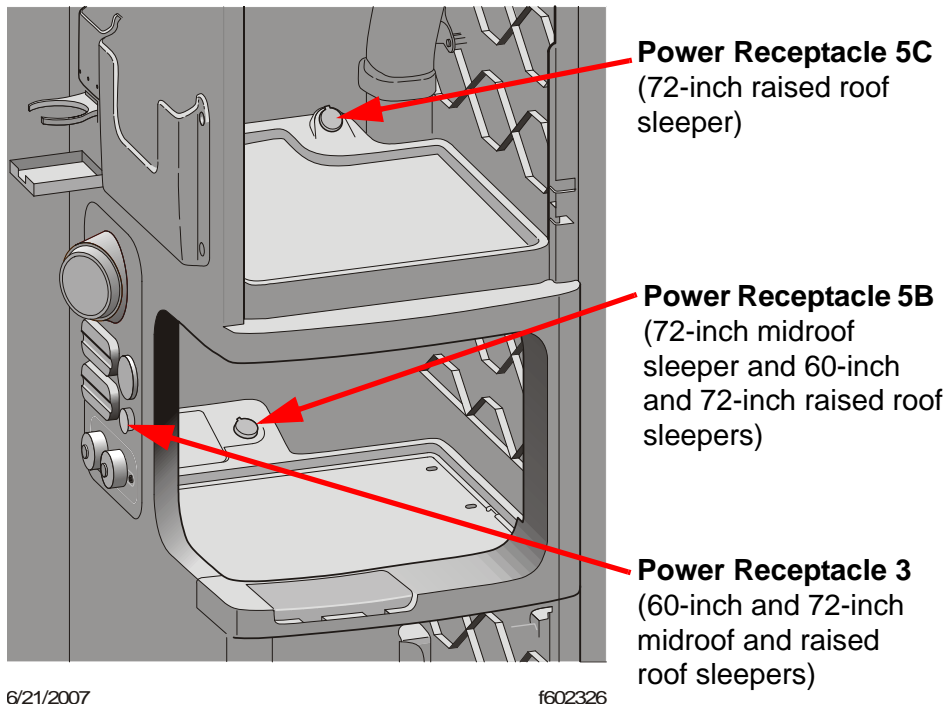
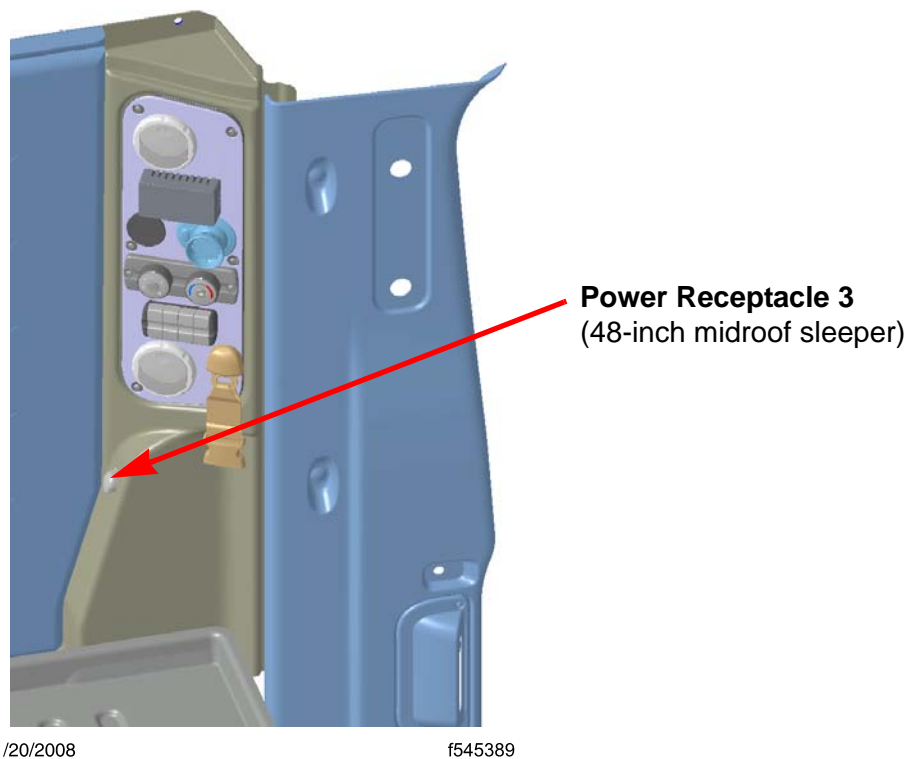

Figure 7-12: Left-Side Cabinet Power Receptacles
Figure 7-13: Left-Corner Power Receptacle
- DC power receptacle 3, battery, on sleeper control panel in 60-inch and 72-inch midroof and raised roof sleepers (**Figure 7-12**); near sleeper control panel in 48-inch midroof sleeper (**Figure 7-13**)
- DC power receptacle 5B, left-side cabinet in a 72-inch midroof sleeper and in 60-inch and 72-inch raised roof sleepers (**Figure 7-12**)
- DC power receptacle 5C, left-side cabinet in a 72-inch raised roof sleeper (**Figure 7-12**)